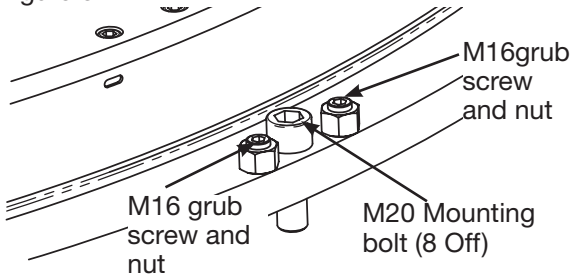

Figure 6: Machine plane adjusting screws
1. Ensure all M16 grub screws are retracted so they do not protrude beneath the 'Baseplate'. See Figure 6